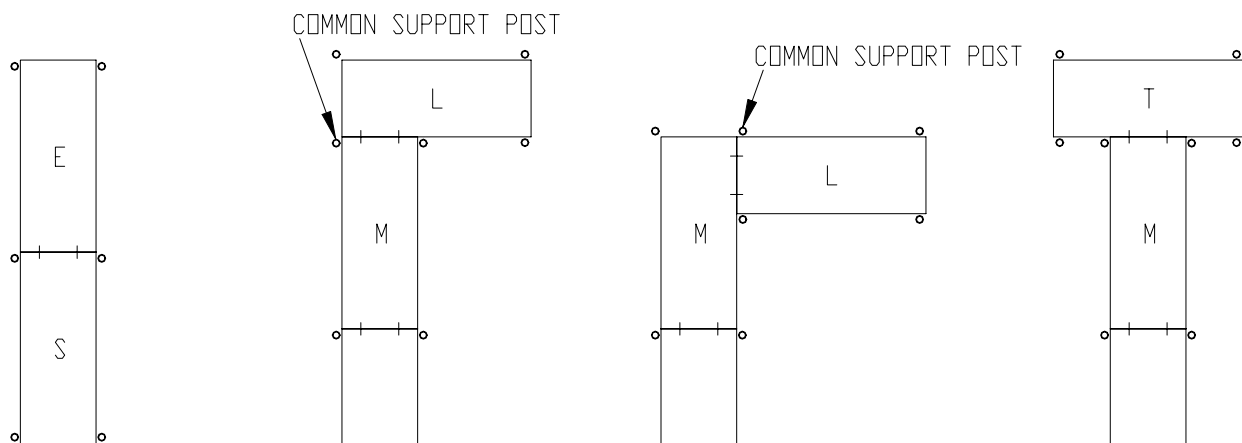

Figure 3-1
3. Lay out the general shape of the dock system to fit your needs. The typical configurations are shown in Figure 3-1.
1. Refer to Figure 3-1. The "L" section and the adjacent middle section can be more easily assembled together on land due to the common support post.